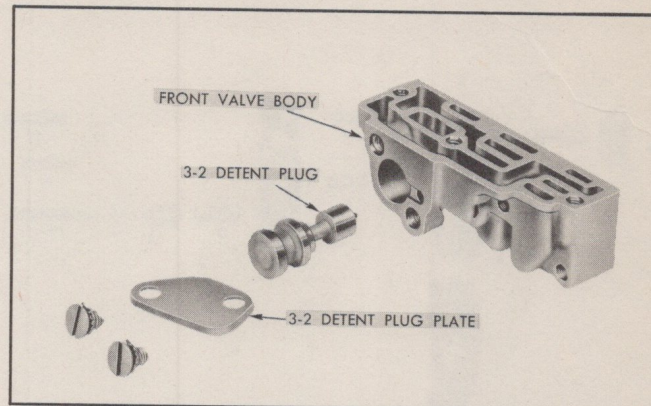

Fig. 16 Location of 3-2 Detent Plug
11. Remove two (2) screws and 3-2 detent plug plate and remove 3-2 detent plug from front valve body (Fig. 16).